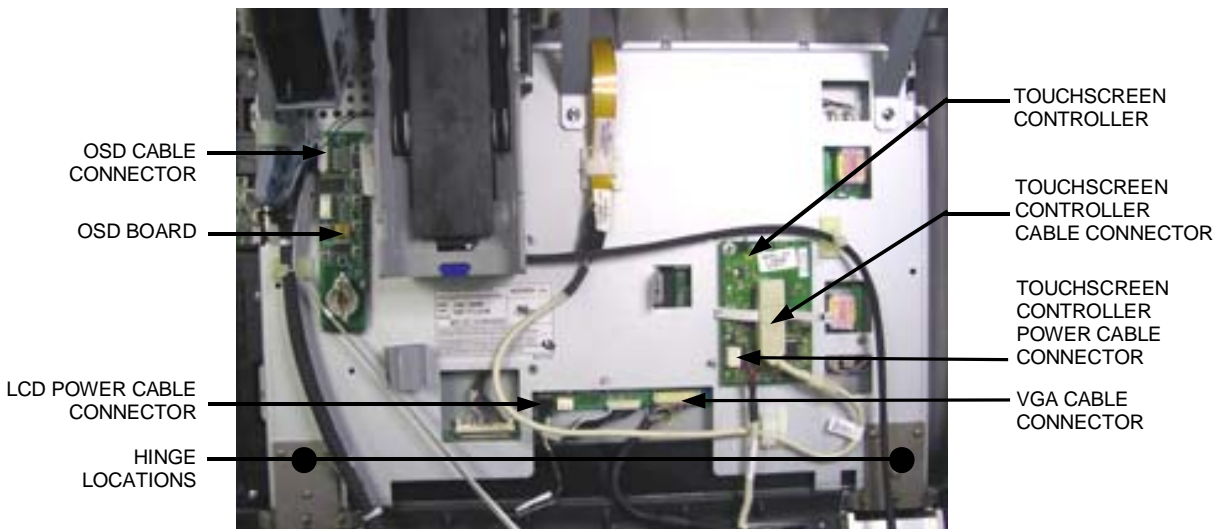
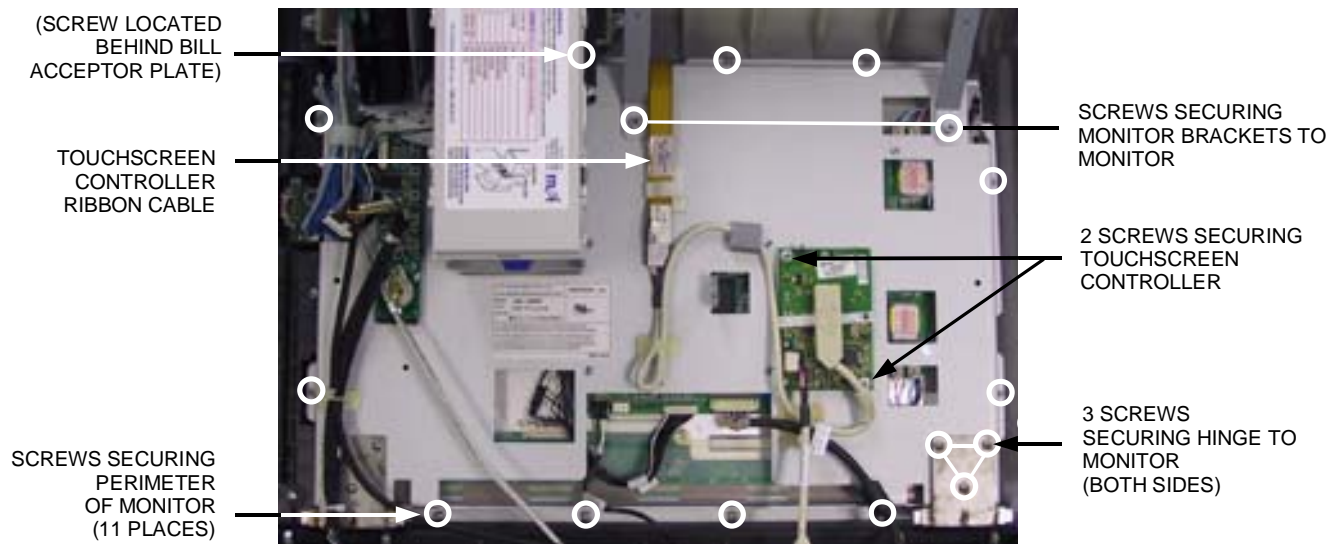

FIGURE 1 - MONITOR CONNECTIONS
FIGURE 4 - SCREW LOCATION ON REAR OF MONITOR
3. Disconnect the LCD power cable connector, the VGA cable connector, and the touchscreen controller power cable connector (see Figure 1).
If you are replacing the monitor: Disconnect the OSD cable connector and then remove the OSD board from the Velcro securing it to the rear of the monitor (see Figure 1).
6. Remove the 2 screws securing the touchscreen controller to the rear of the monitor assembly (see Figure 4), then move the touchscreen controller out of the way for the moment.
7. Remove the screws securing the monitor brackets to the rear of the monitor assembly, then remove the 11 screws that secure the perimeter of the monitor (see Figure 4). Remove the monitor from the bezel.
8. *If you are replacing the monitor:* Remove the 3 screws securing each hinge to the bottom of the monitor (see Figure 4).
If you are replacing the touchscreen: Note the orientation of the touchscreen (i.e. the positioning of the touchscreen ribbon cable and which side is the front of the touchscreen - the rear of the touchscreen will have tape on it, do NOT remove the backing of this tape), then lift the touchscreen out of the bezel. Undo the wraps around the touchscreen controller cable connector and detach it from the touchscreen controller (see Figure 1).
1. *If you are replacing the touchscreen:* Place the new touchscreen into the monitor bezel with the touchscreen controller ribbon positioned at the top of the bezel (see Figure 4). The touchscreen should rest flush against the foam on the inside of the bezel, and the tape on the new touchscreen should be positioned away from the bezel. **NOTE: Do NOT remove the backing from the tape on the touchscreen.** Replace the monitor on top of the touchscreen with the same orientation it had before you removed it from the system (see Figure 4). Be sure to wrap the touchscreen controller ribbon over the top of the monitor as shown in Figure 4. Attach the touchscreen controller cable connector to the touchscreen controller (see Figure 1), then secure the touchscreen controller to the back of the monitor using the same 2 screws you removed earlier (see Figure 4).
If you are replacing the monitor: Place the new monitor on top of the touchscreen in the same orientation as the monitor you removed (see Figure 4). **NOTE: Do NOT remove the backing from the tape on the touchscreen.** Be sure that the touchscreen controller ribbon cable coming from the touchscreen is wrapped over the monitor as shown in Figure 4. Secure the touchscreen controller to the back of the monitor using the same two screws you removed earlier (see Figure 4). Reconnect the OSD cable connector to the OSD board, then secure the OSD board to the Velcro on the rear of the new monitor (see Figure 1 for proper location). Attach the bottom hinges to the new monitor using the 6 screws (3 for each hinge) you removed earlier (see Figure 4). You may need to attach the provided wire clamps to the rear of the monitor assembly. If so, note their location on the rear of the monitor you removed, or use Figure 4 as a guide.
2. Resecure the 11 screws around the perimeter of the monitor (see Figure 4), and secure the monitor brackets to the rear of the monitor with the 2 screws you removed earlier (see Figure 4).
6. Reconnect the LCD power cable connector (the white wire should be on the right while looking at it), the VGA cable connector (the black wire should be on the left while looking at it), and the touchscreen controller power cable connector (see Figure 1).